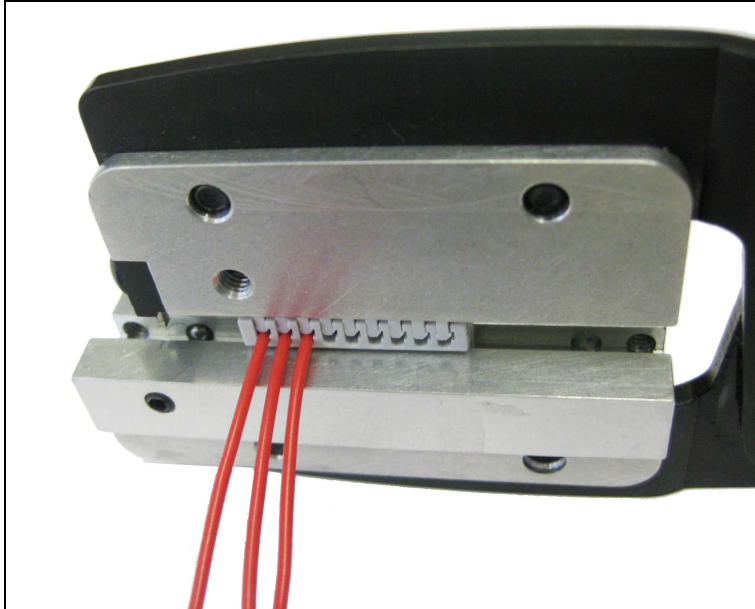

Fig. 7: Fitting the lid
- ▶ Place the lid on the housing (Fig. 7). Make sure that the lid is correctly aligned.